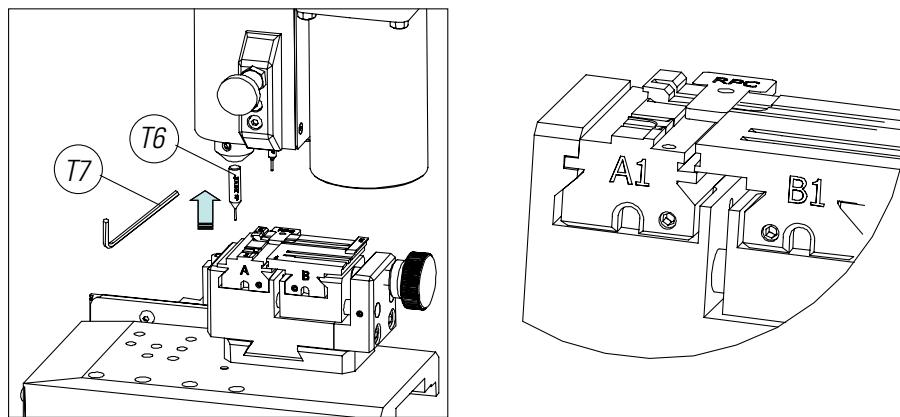

FIG. 24
3) Position the RPC adjustment plate in the clamp, from the back side of the clamp (Fig.24).